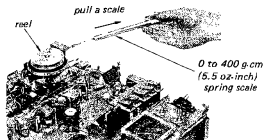

Fig. 3-12. FWD and REV back tension torque adjustment
2. Measure the back tensions by pulling the 0 to 400 g (14 oz) spring scale at approximately 9.5 cm/s (3-3/4 ips) speed in FWD [REV] mode. See Fig. 3-12. It should be 200 to 240 g·cm (2.78 to 3.32 oz. inch).
2. Measure the back tension by pulling the 0 to 400 g (14 oz) spring scale at approximately 9.5 cm/s (3-3/4 ips) speed in FF [REW] mode. See Fig. 3-12. It should be 60 to 80 g.cm (0.83 to 1.1 oz inch).